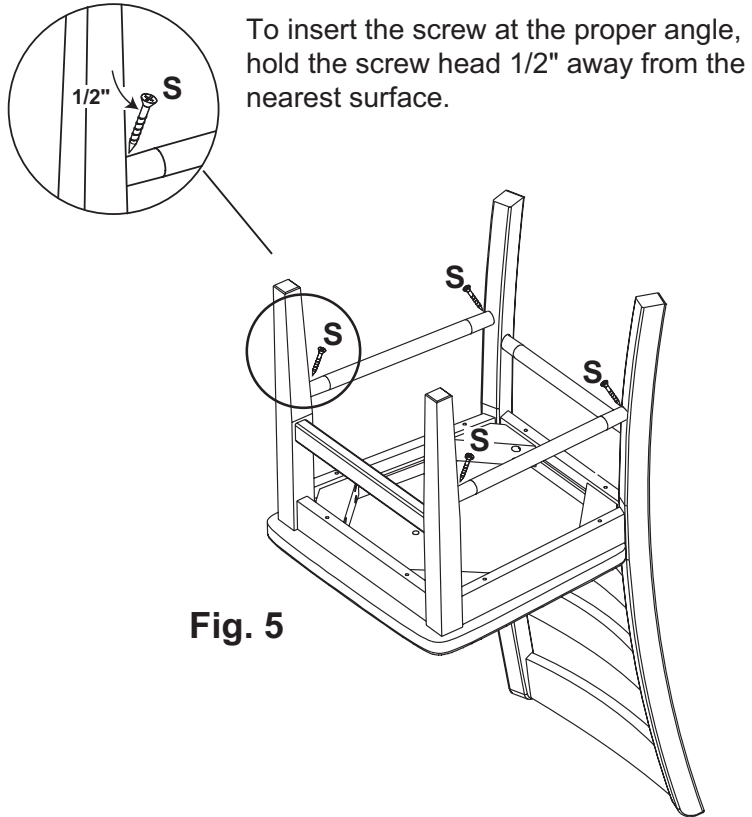

Fig. 5
5. For added strength, insert a #8 x 1-1/4" Black Screw (S) through the bottom of both side stretchers and into the front and back legs. See Figure 5.
Fig. 5 – To insert screw at proper angle, the screw head should be approximately 1/2" from the nearest surface when starting screw. = *Para introducir el tornillo con el ángulo adecuado, la cabeza, del tornillo debe estar aproximadamente a 1/2" de la superficie, más cercana cuando comience a introducirlo.*